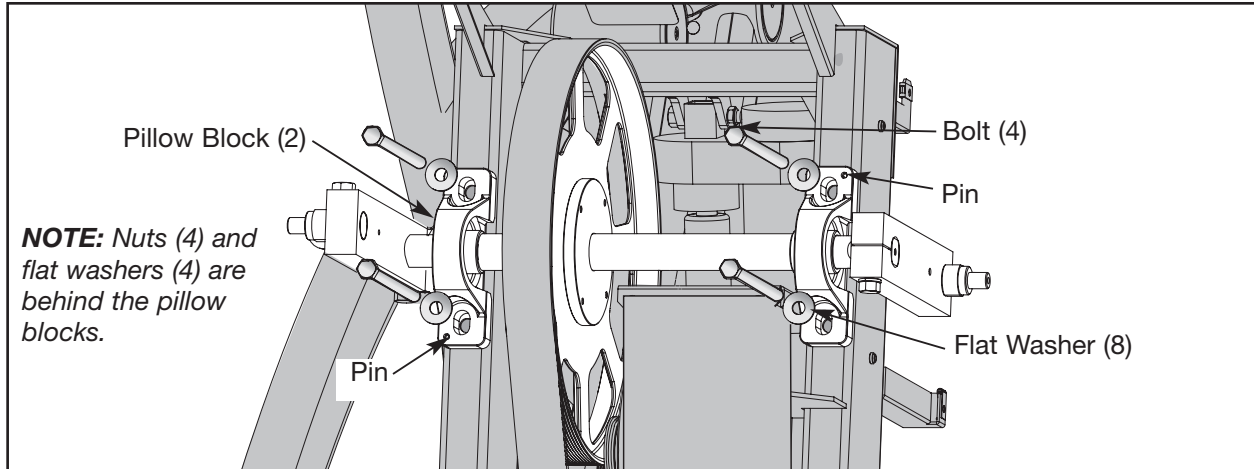

Figure 12
A. Using a 9/16" socket wrench and a 9/16" open end wrench, remove the two bolts, four flat washers and two nuts from each of the top pillow blocks. See Figure 12.
- A. Confirm that a pin (removed in step 9B) protrudes about 1/4" out of the back of each pillow block. **NOTE:** The pins will slide into the frame in the next step. See Figures 12 and 13.
- C. Using a 9/16" socket wrench and a 9/16" open end wrench, secure the two bolts, four flat washers and two nuts (removed in step 9A) to each pillow block. See Figure 12.
- B. Confirm that the secondary drive belt is straight and centered on the lower pulley. See Figure 12.